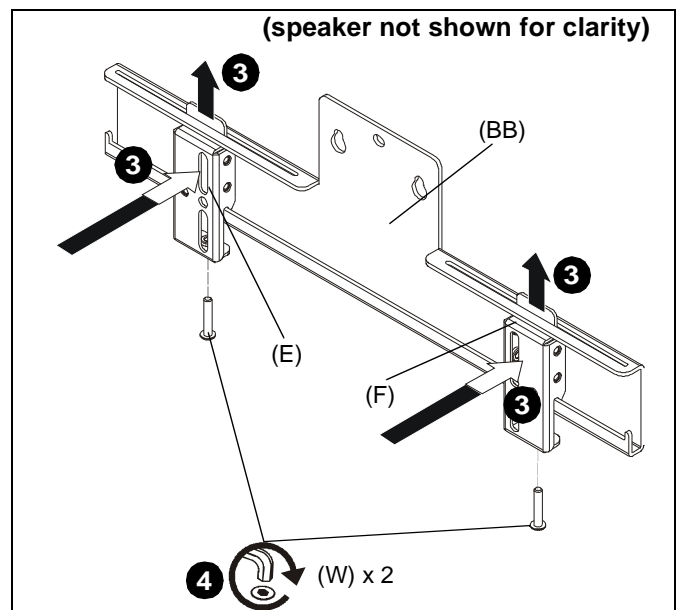

Figure 14
3. Install two speaker interfaces (E and F) to speaker bracket (BB) by sliding upper flanges of interfaces into long slots on speaker bracket and then pushing interfaces into position. (See Figure 14)
4. Use two #10-24 x 1 1/8" button head cap screws (W) to secure interfaces to speaker bracket at desired speaker position. (See Figure 14)